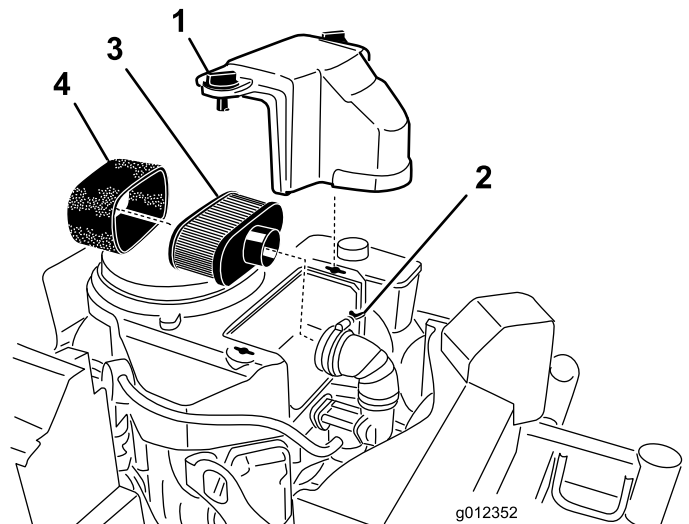

Figure 41
3. Clean around the air cleaner to prevent dirt from getting into the engine and causing damage (Figure 41).
4. Unscrew the cover knobs and remove the air cleaner cover (Figure 41).
5. Unscrew the hose clamp and remove the air cleaner assembly (Figure 41).
6. Carefully pull the foam element off the paper element (Figure 41).
1. Do not clean the paper filter, replace it (Figure 41).
1. Carefully slide the foam element onto the paper air cleaner element (Figure 41).
2. Place the air cleaner assembly into the hose and secure it (Figure 41).
3. Place the air cleaner cover into position and tighten the cover knobs (Figure 41).